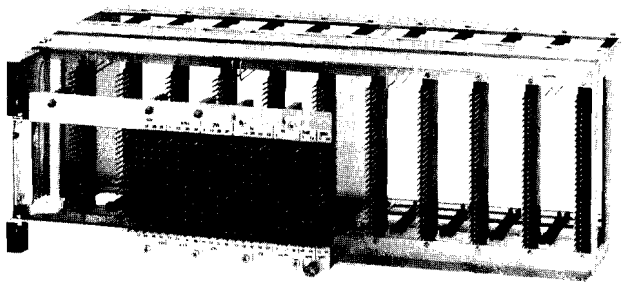
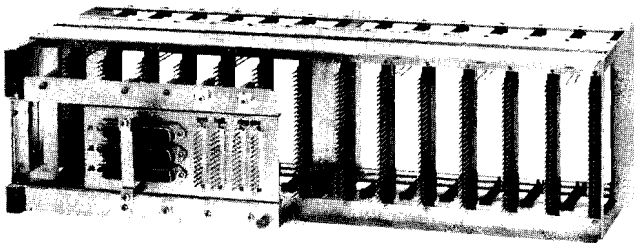
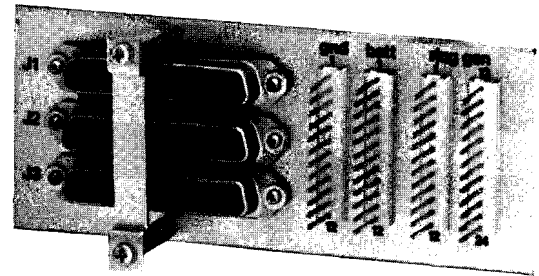
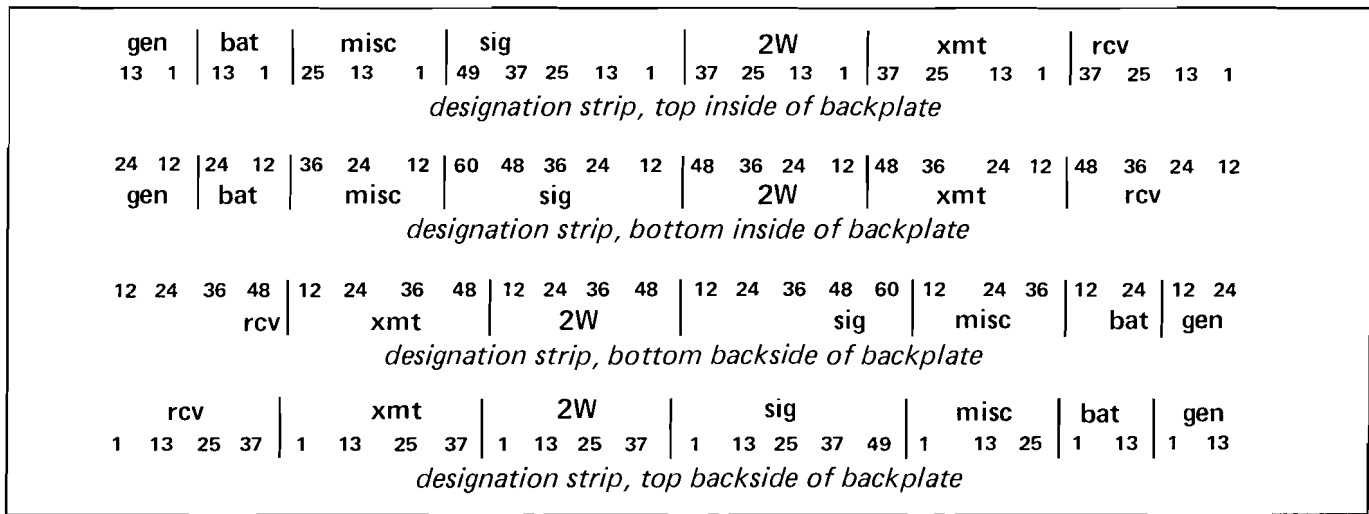

figure 4. Type 10 Universal Shelf
figure 5. Type 10 Connectorized Universal Shelf
figure 7. Backplate layout (Type 10 Connectorized Universal Shelf)
figure 6. Backplate designation strips (Type 10 Universal Shelf)
1.03 Relay-rack configured Type 10 Shelves are also available in universally wired versions and in connectorized universally wired versions. The Type 10 Universal Shelf (figure 4) and Connectorized Universal Shelf (figure 5) each have a rear-mounted hinged backplate at which main-frame tie cables are terminated. The Universal Shelf terminates these tie cables via wire-wrapping, while the Connectorized Universal Shelf is equipped with three 25-pair female cable connectors for tie-cable termination. The Connectorized Universal Shelf also has four 12-pin wire-wrapping connectors on the backplate for battery, ground, and ring generator connections. Designation strips used on the Type 10 Universal Shelves to identify areas in the pin field are shown in figure 6, and the backplate layout of the Type 10 Connectorized Universal Shelves is shown in figure 7.
2.06 Tellabs recommends the use of three tie cables from the main frame to the Universal and Connectorized Universal Shelves. The use of separate transmit, receive, and signaling/2wire cables minimizes crosstalk and separates high and low transmission levels. On Universal Shelves, tie cables are terminated to appropriate wire-wrapping pins on the rear of the backplate (figure 6). On Connectorized Universal Shelves, tie cables are terminated at connectors J1 through J3 (figure 7). Two 12-pin wire-wrapping connectors, *batt* and *gnd*, are used for battery and ground connections, respectively. Two 12-pin connectors labeled *ring gen* are used for ringing generator connections. Routing of tie cables is described in paragraphs 2.07 and 2.08